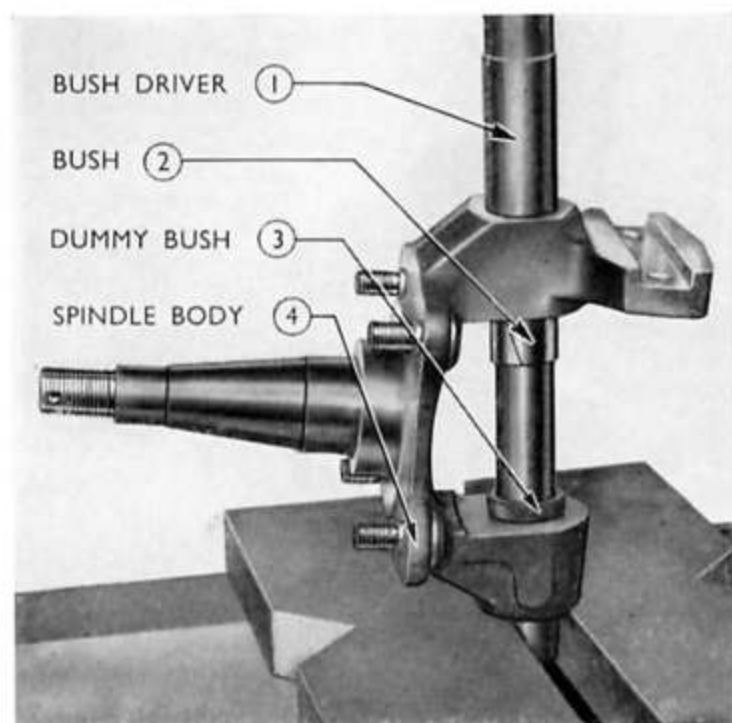

Fig. 5
4. Invert the spindle body on the press and install the dummy bush. Enter the driver and press out the remaining bush (see Fig. 5).